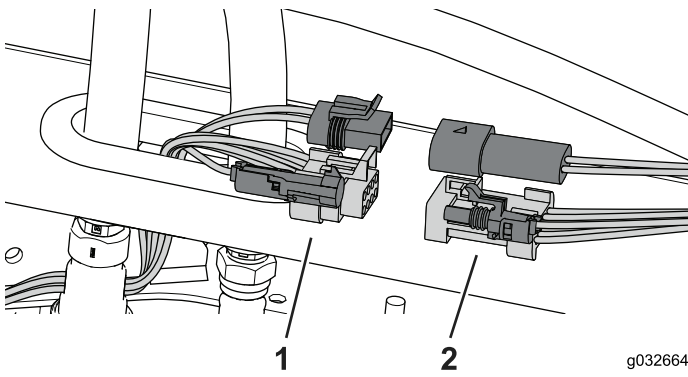

Figure 108
3. Disconnect the machine wire harness from the cab wire harness (Figure 108).